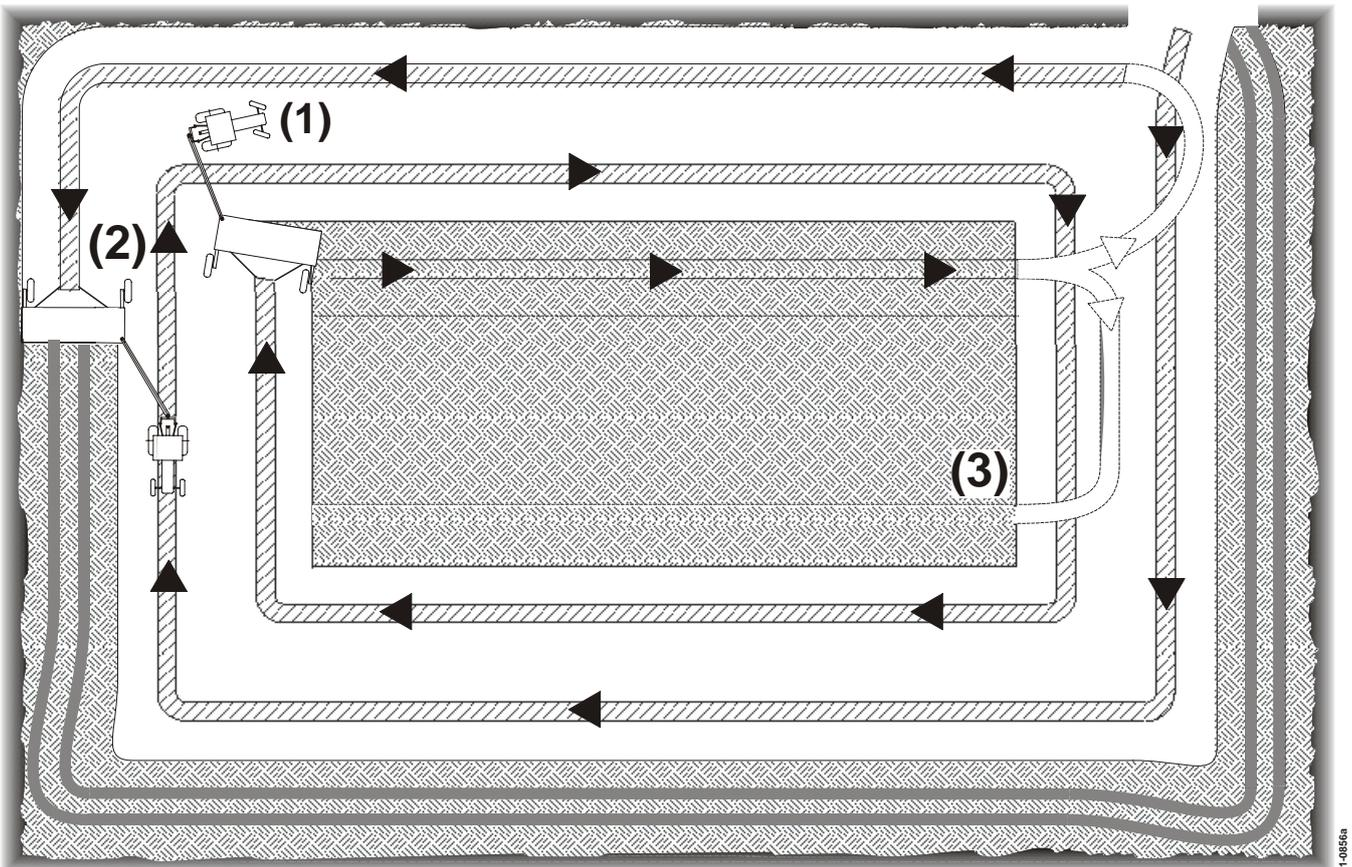

Fig. 3-5
- Fig. 3-5 Place the machine in working position. In this position drive clock-wise for some rounds **(1)** so that there is space to turn at the ends of the field. The preparation of the headland is ended by mowing the outermost round, driving counter clock-wise **(2)**.